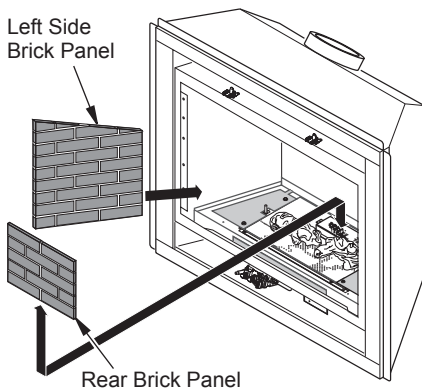

Figure 43 - Installing Rear Brick Panel
6. Install rear brick panel first. Rest bottom edge of panel on back edge of burner assembly (see Figure 43).
7. Install left side brick panel by sliding it between burner assembly and side of firebox (see Figure 43).